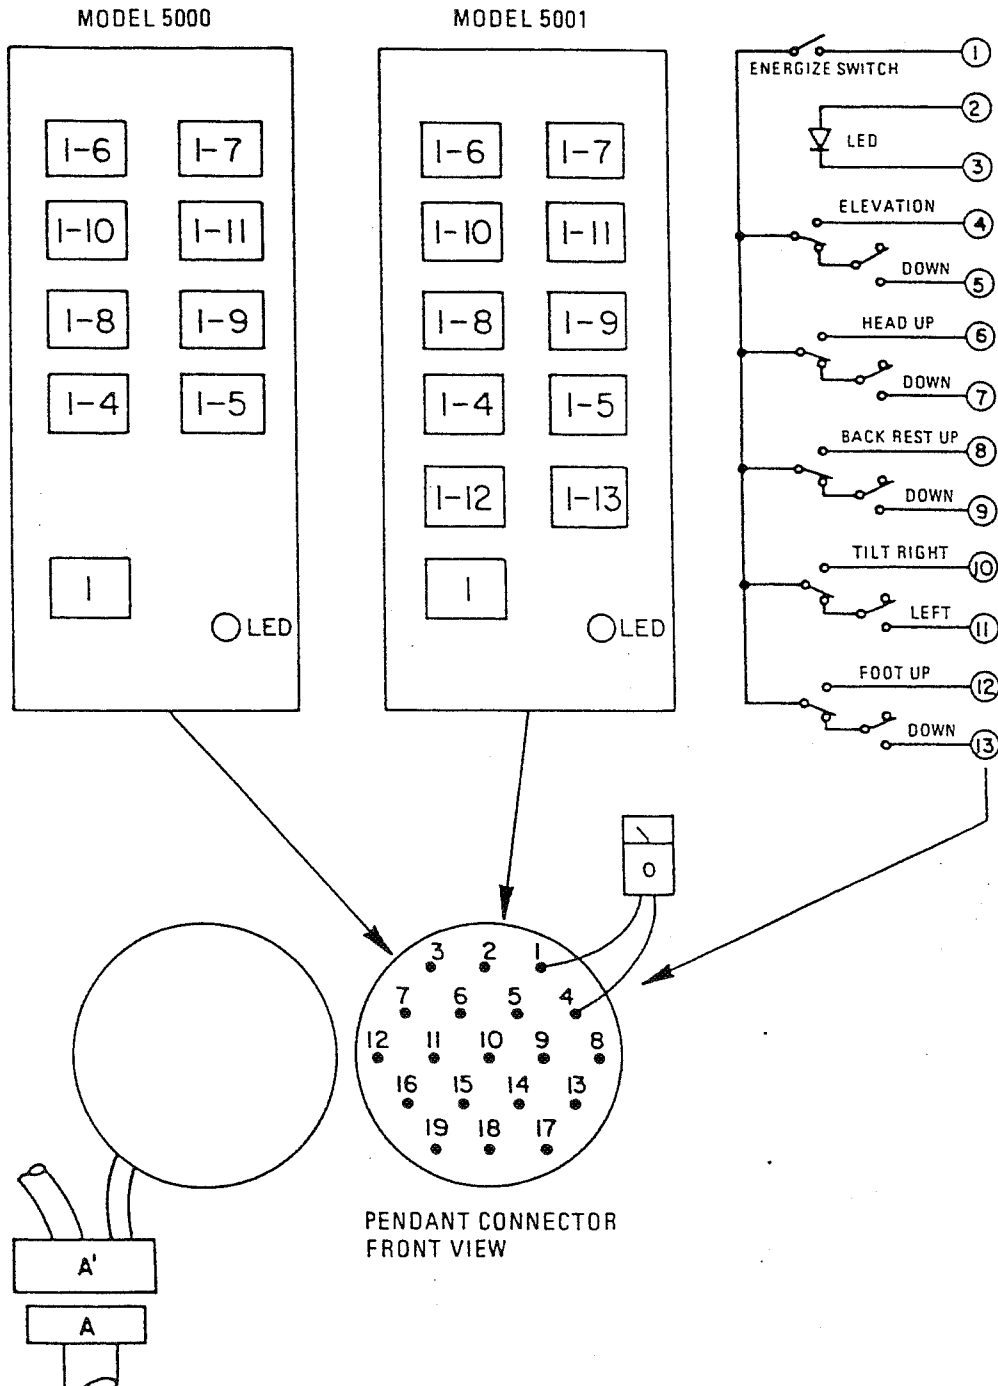

Figure 5-11. Pendant Control (Models 5000 and 5001)
2. Use an ohmmeter R x 1 and check the continuity between pins 1 through 16. See figures 5-11. and 5-12.